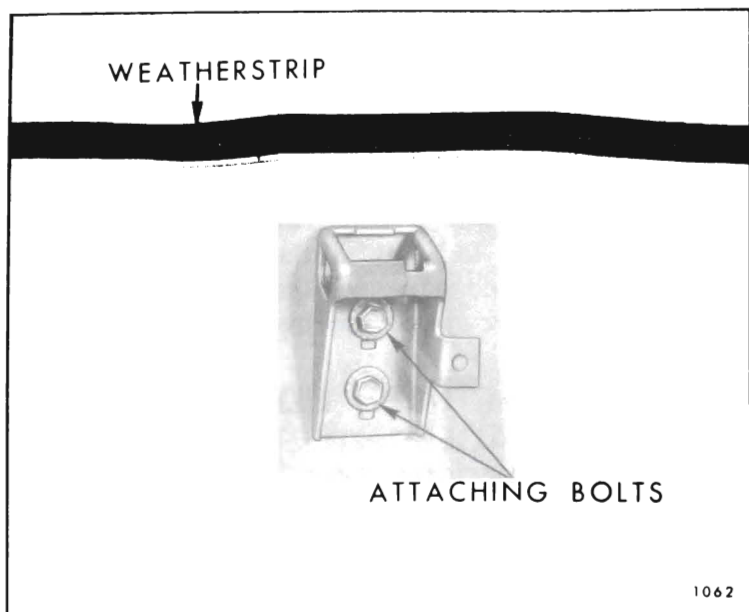

Fig. 9-17—Engine Compartment Lid Latch Striker
2. Remove attaching bolts and remove striker from body. (See Fig. 9-17.)